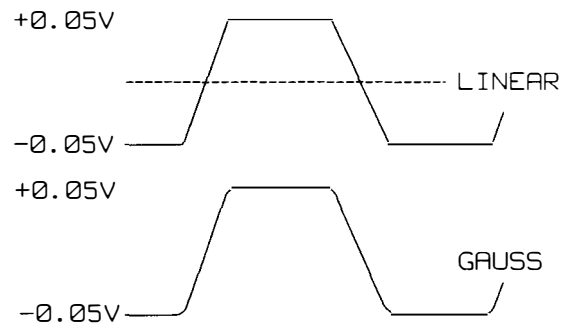

Figure 10.4-9. Shaper IC Output (LINEAR)
7. Check the output on TP6 against Figure 10.4-9